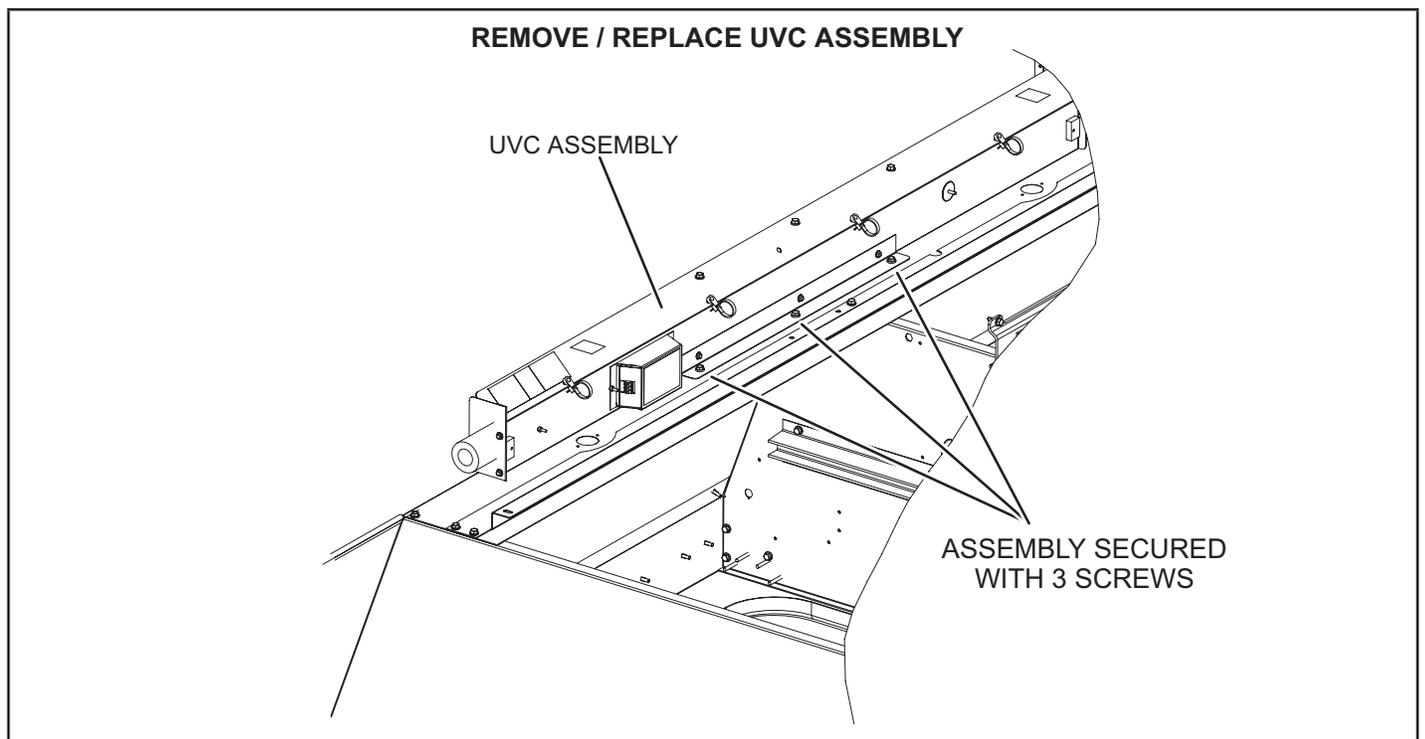

FIGURE 29
- 6 - Allow 10 minutes before touching the lamps. Then, carefully remove the lamp splash guards (and lamp for annual replacement) from each of the lamp holders. See FIGURE 29.